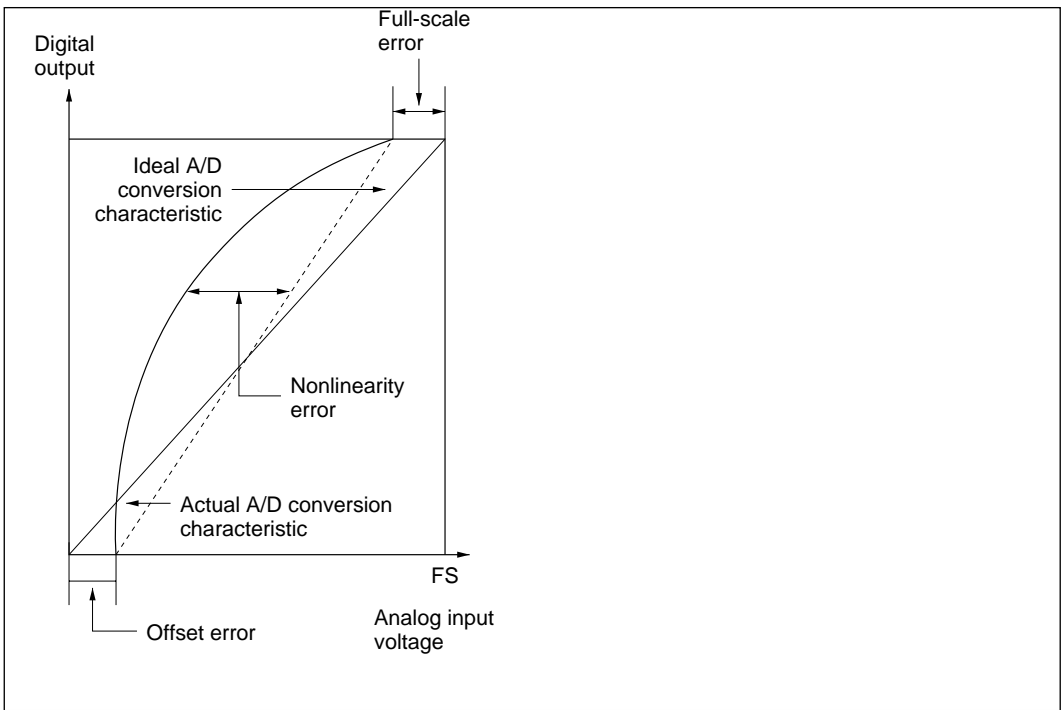

Figure 15-10 A/D Converter Accuracy Definitions (2)
- Offset error:Deviation from ideal A/D conversion characteristic of analog input voltage required to raise digital output from minimum voltage value 0000000000 to 0000000001 (figure 15-10)
- Full-scale error:Deviation from ideal A/D conversion characteristic of analog input voltage required to raise digital output from 111111110 to 1111111111 (figure 15-10)